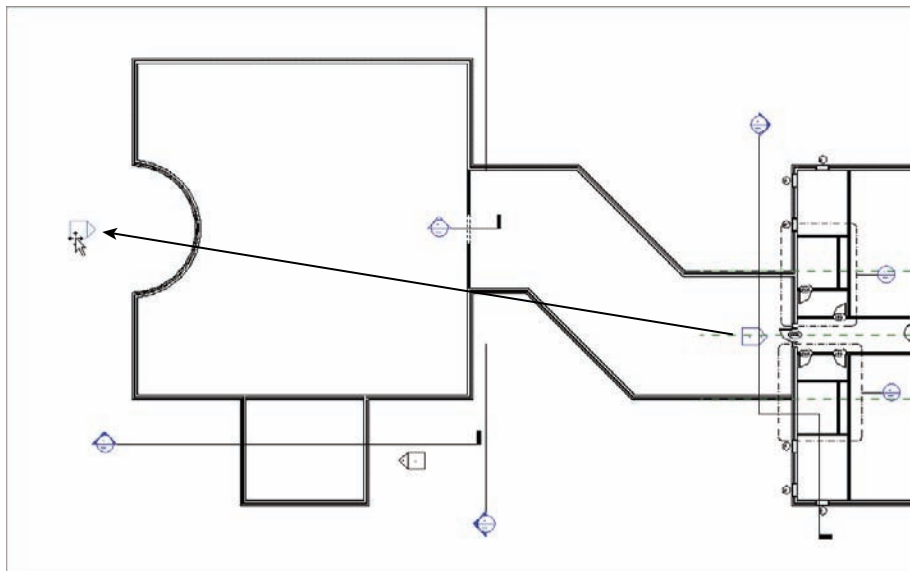

FIGURE 3.76 You can drag the elevation marker after the entire item is selected.
3. Move your mouse over the selection. Your cursor turns into a move icon with four move arrows, as shown in Figure 3.76.
4. Drag the elevation marker to the west side of the building, as shown in Figure 3.76.